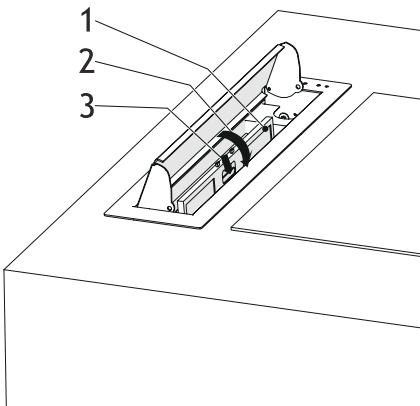

Fig. 8
2. ➔ Press the aluminium filter tab (Fig. 8/2) and pull the aluminium filter to the direction of the (Fig. 8/ 3).